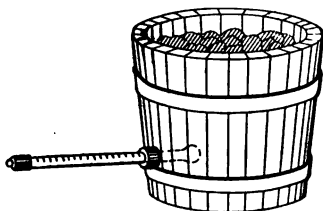

FIG. 33.
M. There are several ways of showing it. Take a wooden bucket, bore a hole in the side near the bottom, and cork a thermometer into the hole. Then fill the bucket with ice-water in which pieces of ice are floating, and let it stand (Fig. 33). After some time the thermometer below will show the temperature $+4^{\circ}\text{C}.$, while another thermometer dipped in the water at the top will stand at 0° . Explain that to me.